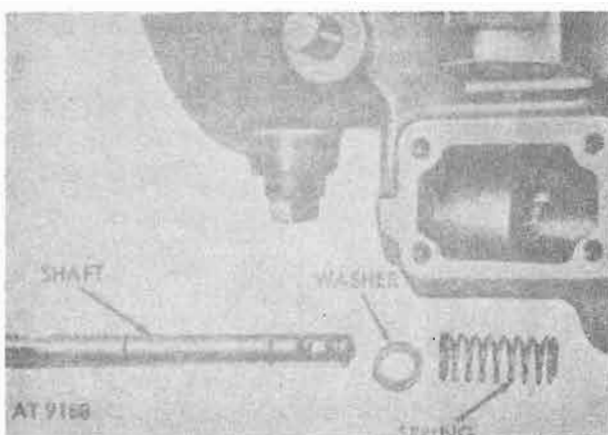

Figure 8-55. Shifter fork shaft assembly.
e. Remove shifter shaft, washer, and spring (fig. 8-55).